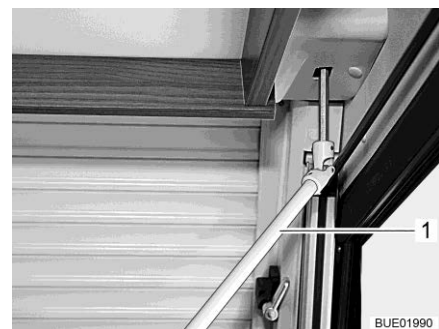

Fig. 107 Hand crank for emergency operation
- Insert the included hand crank (Fig. 107,1) into the holder.